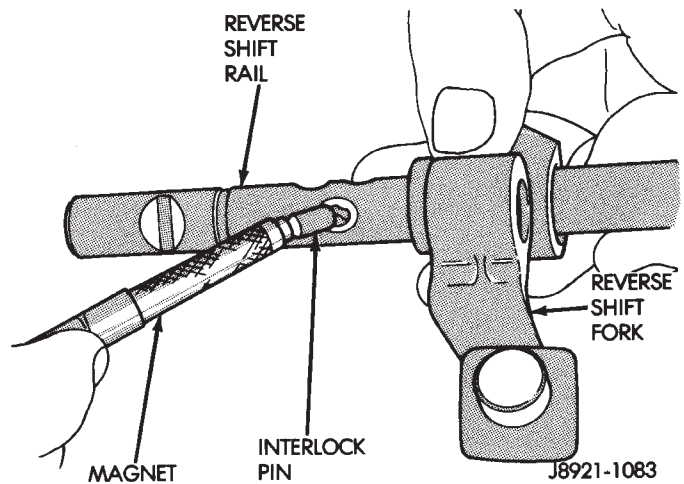

Fig. 79 Remove Reverse Shift Rail Interlock Pin
(32) Remove the interlock pin from the reverse shift rail (Fig. 79).